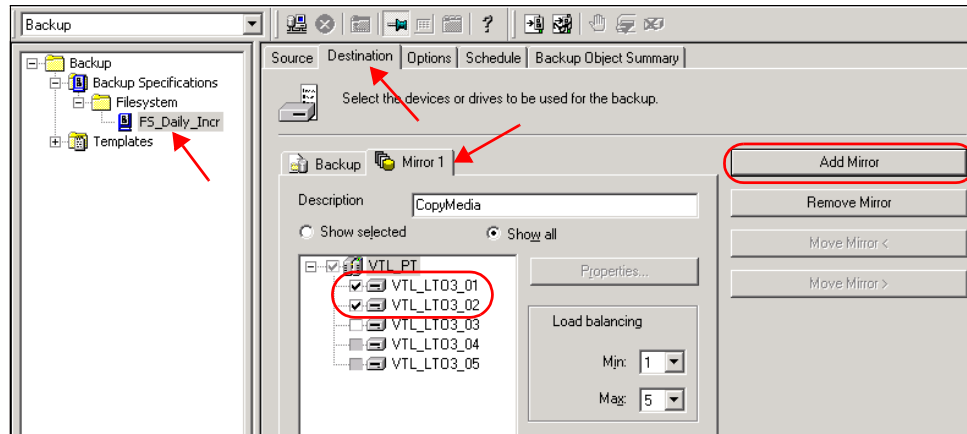

Figure 16-11 Usage of a mirror
Modify the backup policy settings, as shown in Figure 16-11. The figure shows the usage of a mirror. To add the object mirror functionality:
2. Click the **Destination** tab and select the relevant drives. As illustrated in Figure 16-11, from the Mirror 1 tab, select the VTL_LTO3_01 and VTL_LTO3_02 drives.